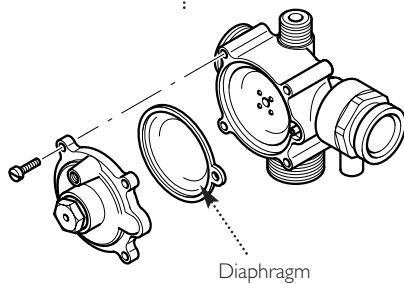

Fig. 78
14.21 Central Heating Differential Valve Microswitch (Fig. 78)